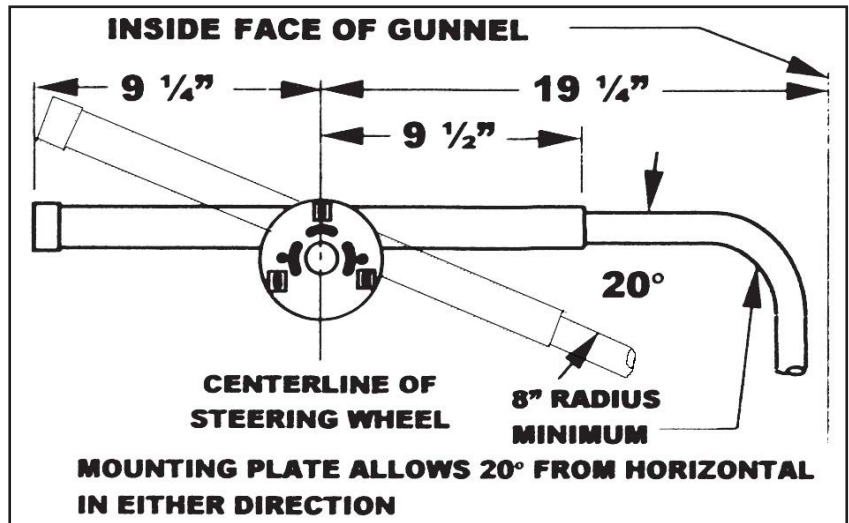
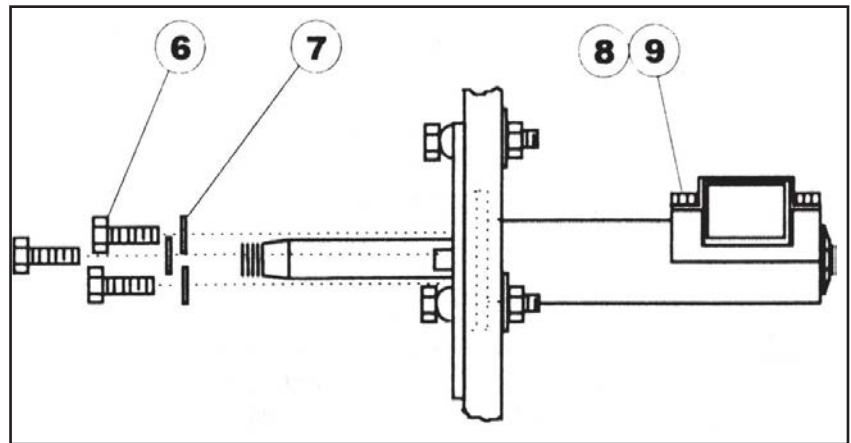

Figure 1.
Figure 4.
Ensure that the clearances shown on Figures 1 and 2 are maintained. Ensure that the steering wheel does not interfere with other dashboard equipment such as engine controls and instruments.
**STEP3.** Attach the helm and cable assembly to the helm mounting plate, using three bolts (item 6) and washers (item 7) supplied with the SB39526 Bezel Kit (see Figure 4). If required, the helm and cable assembly can be angled 20° from horizontal in either direction by rotating the helm and cable assembly in the mounting plate slots before tightening (see Figure 1). Tighten bolts securely after positioning helm.